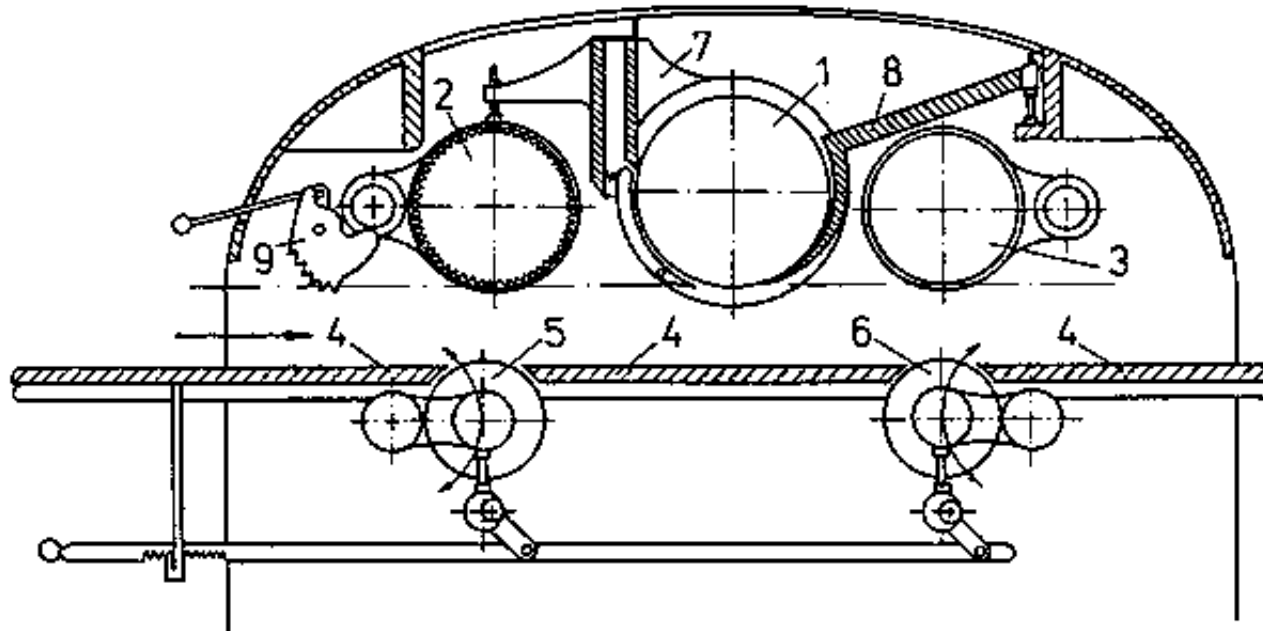

Figure 6 - Construction of the thicknessing miller
- **Maximum chip removal is determined by the device for chip thickness limitation (see Figure 6) (depending on the type of the machine).**